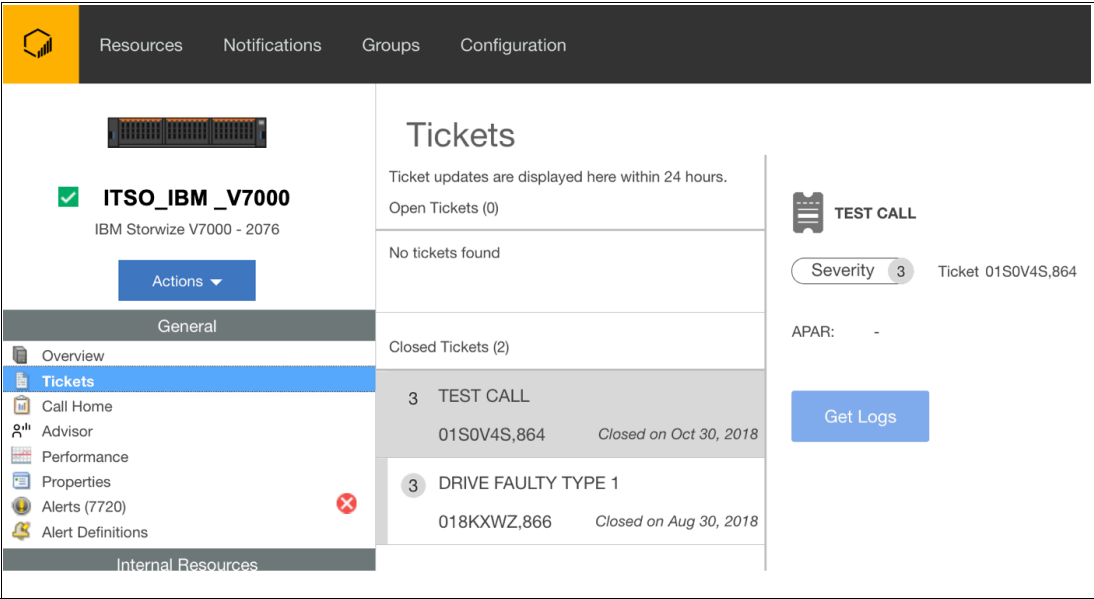

Figure 11-18 Ticket summary
6. Review the summary of the open and closed ticket numbers for the system that is selected by using the **Action** menu option (see Figure 11-18).